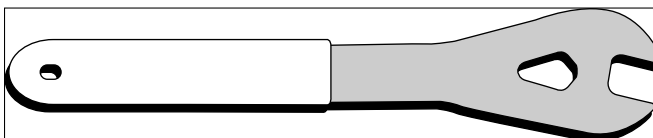

Figure 3-8:
- ✔ **Cone wrench (see Figure 3-8):** You use a cone wrench if you're going to overhaul or make an adjustment to the bearings of your wheel hub. There are a number of standard sizes (usually 13mm for the front and 15mm for the rear), so be sure to check your wheel specifications. It's good to have two of each size.